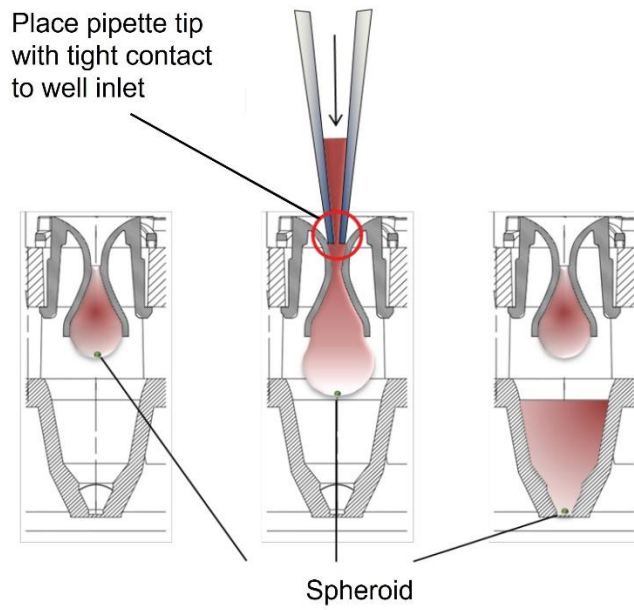

Figure 8: 3D cell culture model transfer from the Akura™ PLUS Plate into the Akura™ 96 Plate.
2. Slowly (i.e., ≤ 10 µl/sec when using Integra Viaflo pipettes) add 70 µl of medium through the inlet of the Akura™ PLUS Plate wells. The pipette tips should be in direct contact with the well inlets by simultaneously applying a subtle pressure with the pipette. The drops will fall into the Akura™ 96 Plate (Fig. 8).